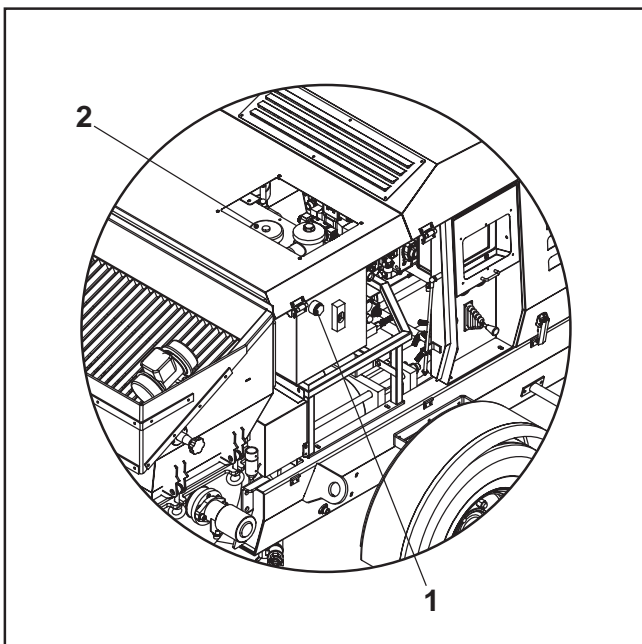

FIG.24
- Check the hydraulic oil level through the sight glass (FIG.24-REF.1); indicatively, it must be in the centre of the sight glass (with machine off and cold). The filler cap (FIG.24-REF.2) is located above the tank. Loosen the bodywork's lid above the hydraulic oil tank to top-up.